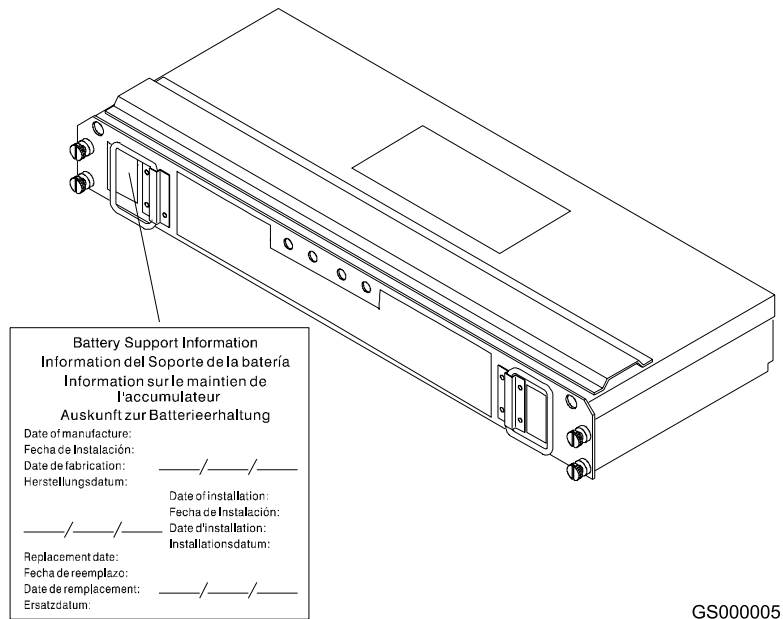

Figure 32. Checking the battery service date
2. Check the Battery Support Information label, as shown in Figure 32.